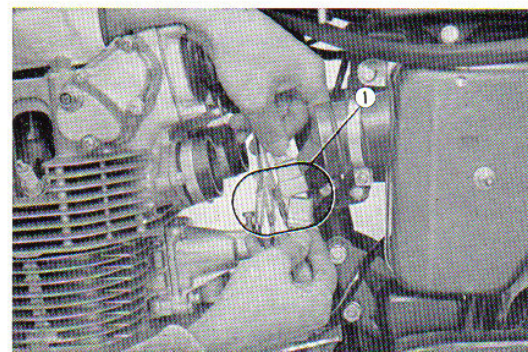

Fig. 3.5 Uncoupling the electrical leads
6. Unplug the electrical cable connection. (Refer to Fig. 3.5)